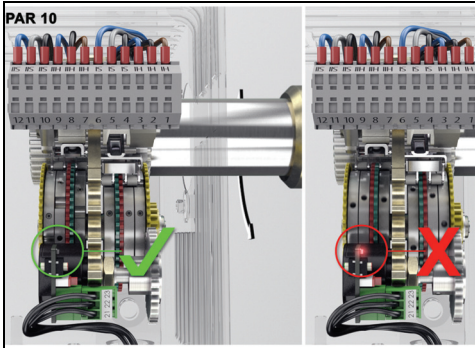

Fig. 28
- ▶ The red and green LEDs flash alternately when the rotation direction is set incorrectly. Then set the direction of rotation switch again. The LED does not output a signal when the rotation direction is correct (see Fig. 28).